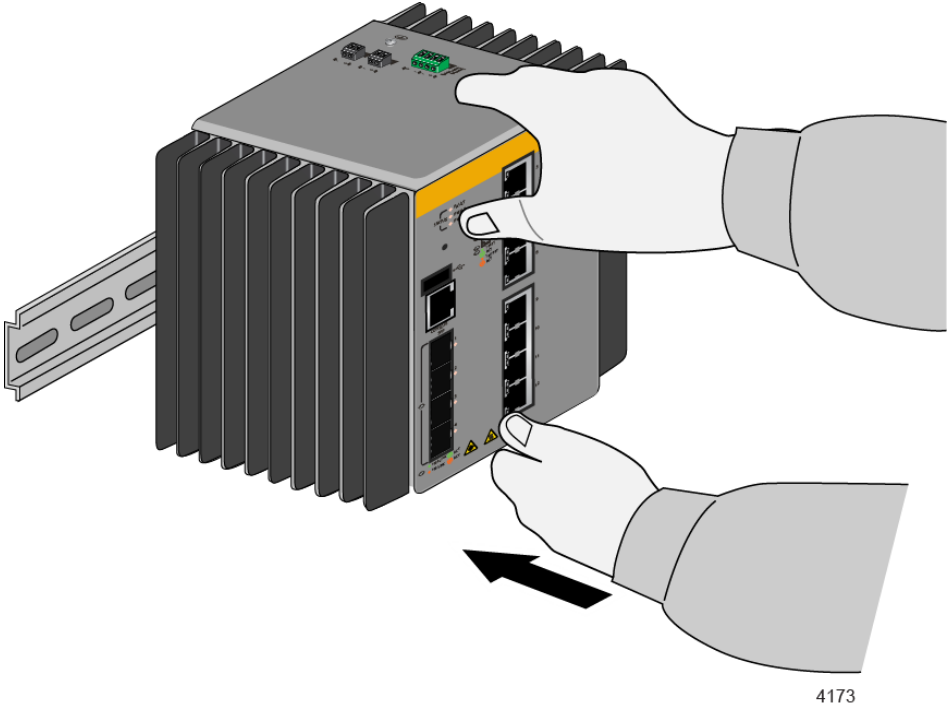

Figure 17. Installing the Switch on a DIN Rail - 2
- 2. Press on the bottom edge of the front faceplate of the switch until the bottom edge of the DIN rail snaps into the bottom slot in the bracket. Refer to Figure 17.